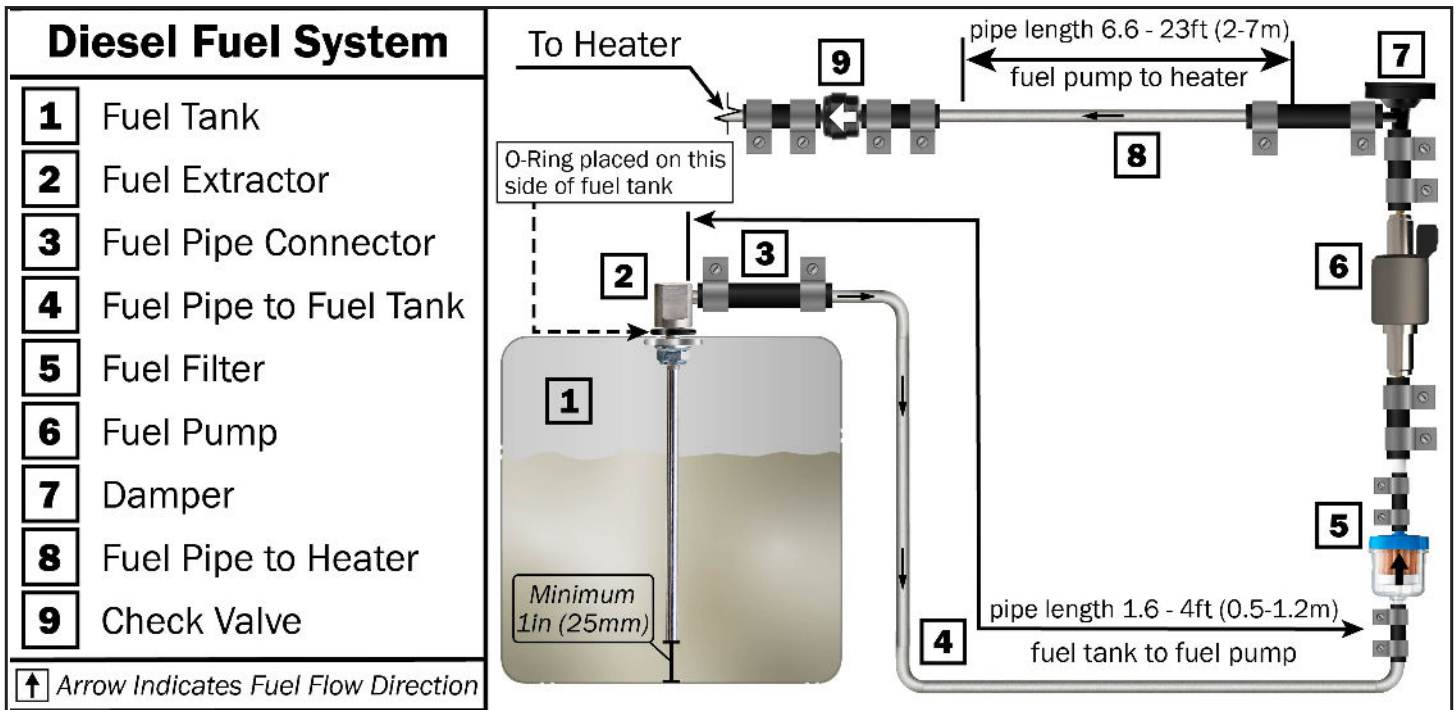

Figure 25
- The fuel line should not be descending from the fuel pump to the burner - see Figure 25.
- The fuel check valve (Figure 25 #9) must be installed between the heater and fuel pump (Figure 25 #6).